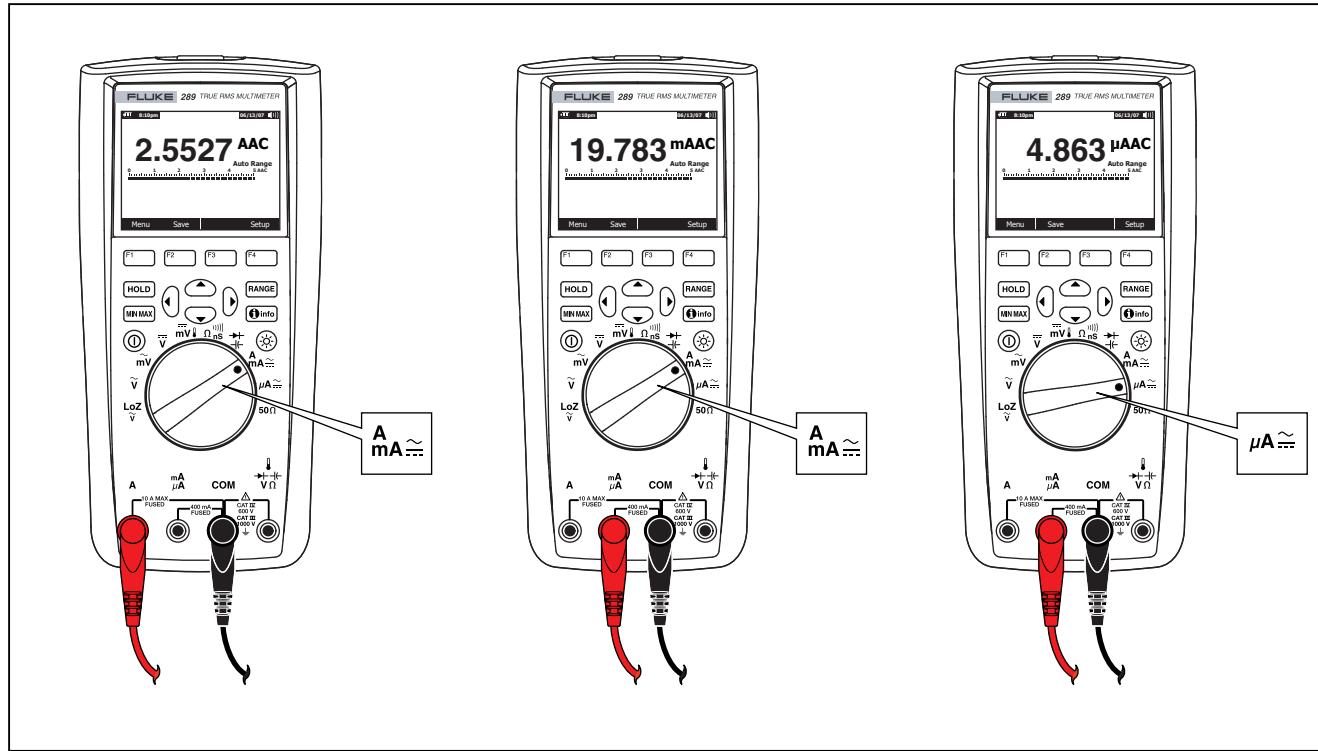

Figure 21. Current Measurement Setup
3. If you are using the A terminal, set the rotary switch to $\text{A} \frac{~}{\text{~}}$. If you are using the mA/µA terminal, set the rotary switch to $\mu\text{A} \frac{~}{\text{~}}$ for currents below 5000 µA (5 mA), or $\text{mA} \frac{~}{\text{~}}$ for currents above 5000 µA. See Figure 21 for test lead connections and function selection. Refer to the "Input Alert Feature" section for information on the alerts the Meter uses when leads are not used correctly for current measurements.